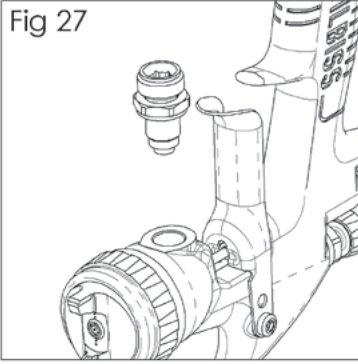

Fig 28
4. Remove seal (45) and replace with new seal (See Fig. 28).